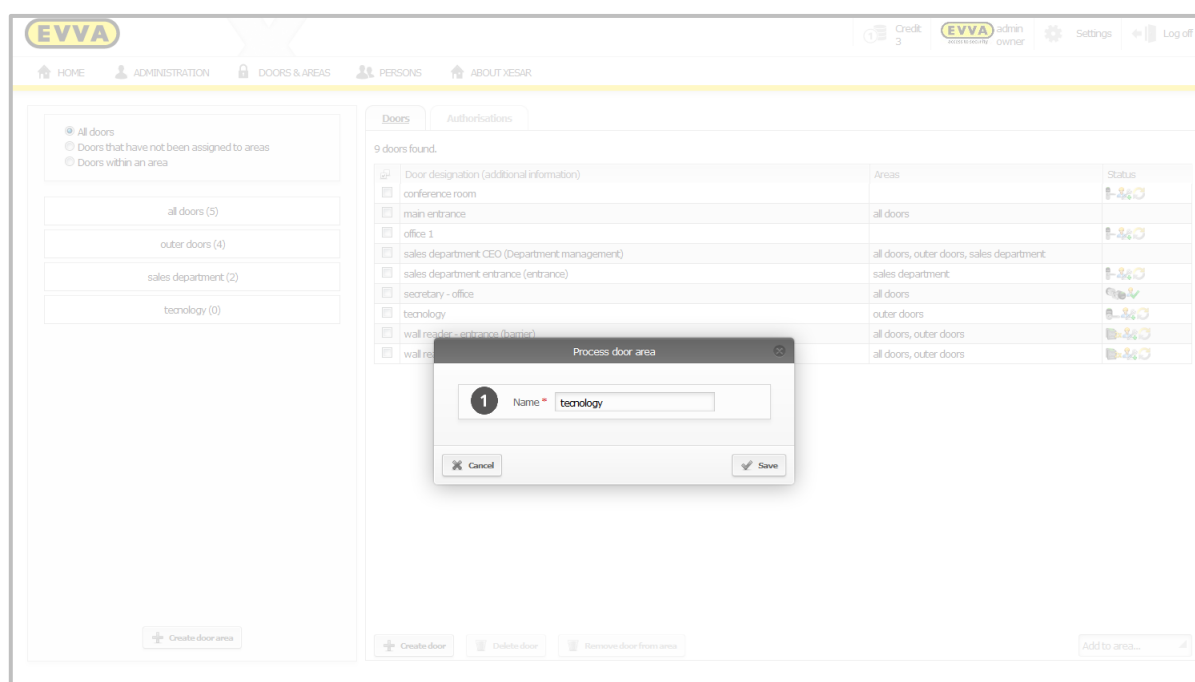

Figure 72: Renaming areas
- Enter the new area designation in the **Name** field of the dialogue window (Figure 72: Renaming areas) and click **Save** to confirm.